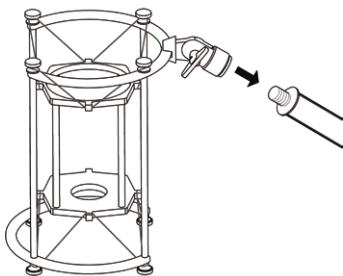

Fig. 1
1. Screw the microphone shock absorber onto a sturdy, stable stand (Fig. 1).